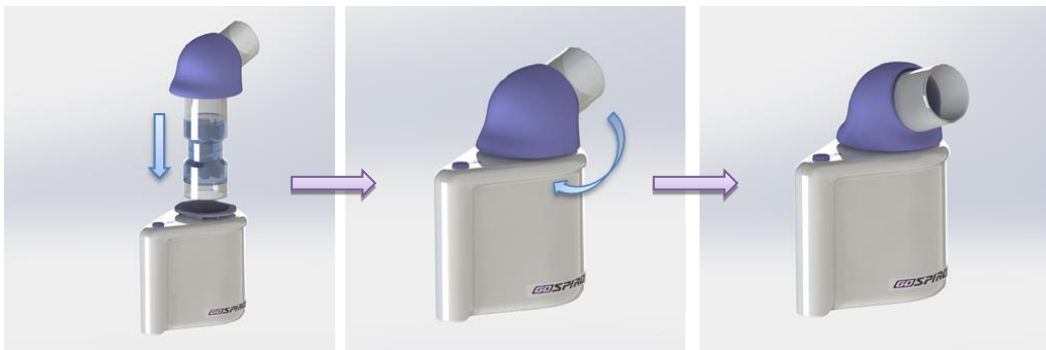

Figure 3 Insert transducer for right hand use
- 8.2. If you use your right hand to hold the GoSpiro, install the Turbine Assembly as following (steps showing in Figure 3):